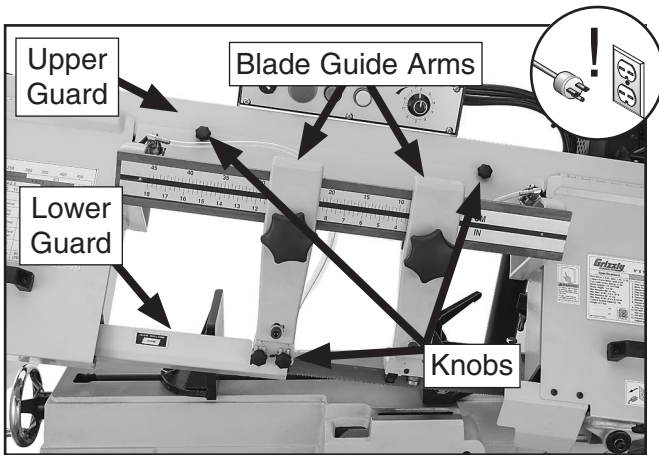

Figure 19. Location of upper and lower blade guards.
3. Loosen and slide both blade guide arms toward center of headstock (see **Figure 19**).
4. Loosen or remove knobs that secure upper and lower guards shown in **Figure 19**, then remove both guards.